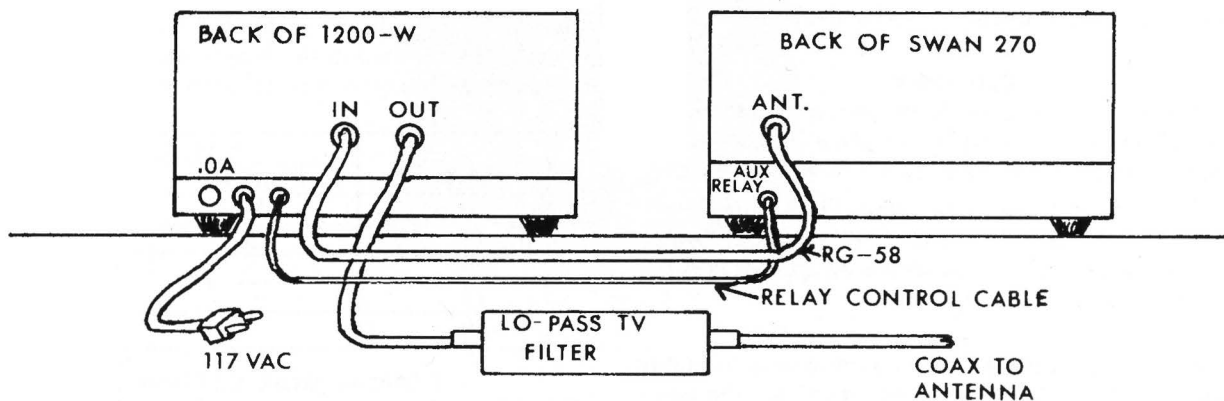

FIG. 3 REAR VIEW - TYPICAL INSTALLATION USING SWAN 270
- (a) Refer to the pictorial in Fig. 3 when making the installation. Connect a short length of coaxial cable (RG-58 or RG-8) from the transceiver or exciter to the coaxial input jack on the 1200-W. A PL-259 type connector is required at the amplifier end of the cable. This cable should be as short as practical and preferably not more than 5 feet long.